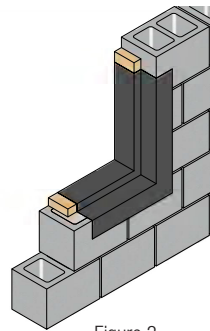

Figure 3
- pinhole-free flashing membrane with a thickness of 12-30 mils. Extend the flashing membrane throughout the rough opening and minimum 4 inches onto the face of the exterior wall. (See Figures 3 & 7).